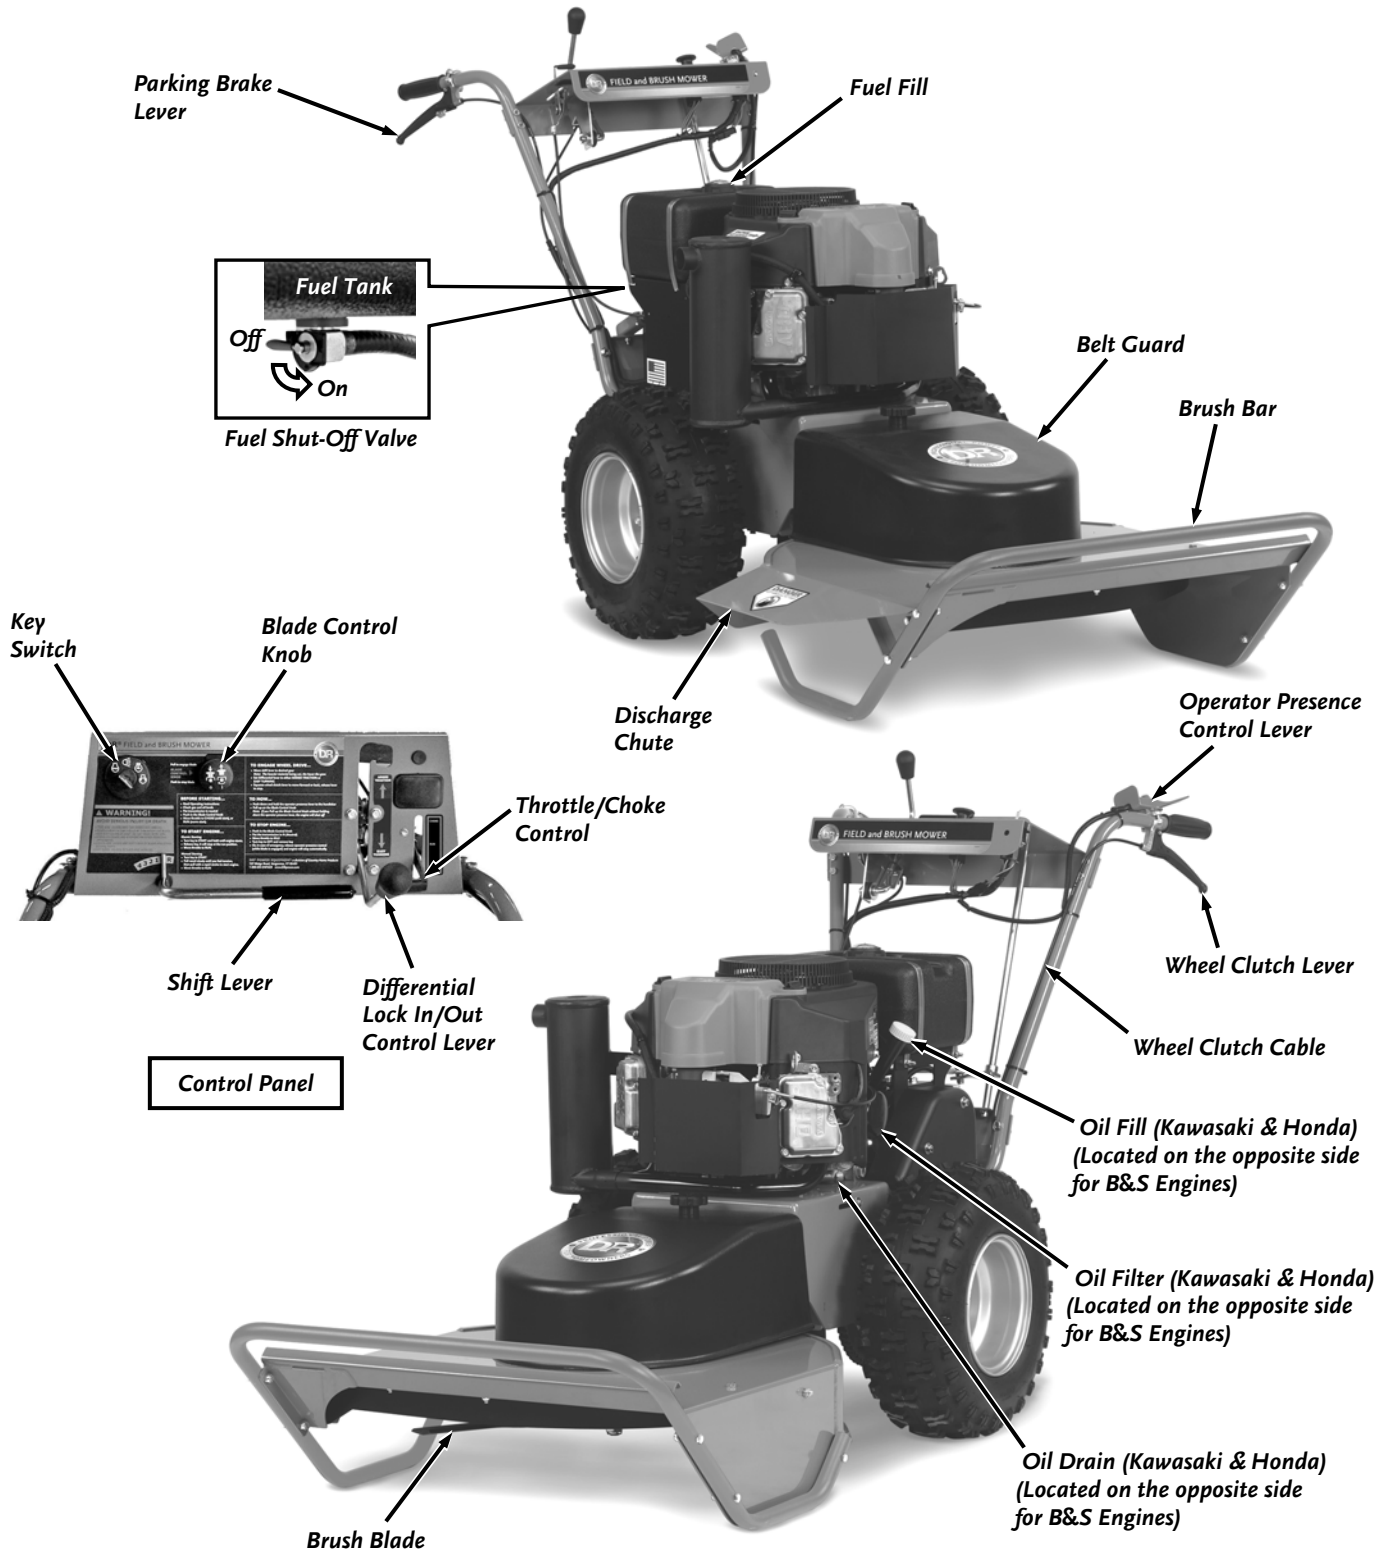

Figure 1
It may be helpful to familiarize yourself with the controls and features of your DR FIELD and BRUSH MOWER as shown in Figure 1 before beginning these procedures. If you have any questions at all, please feel free to contact us at [www.DRpower.com](http://www.DRpower.com).
1. Place the machine on a level surface and initially add 1/2 of the SAE 30 high detergent oil recommended by the Engine manufacturer into the Oil Fill (**Figure 1** on page 7) and wait one minute for the oil to settle.
4. Open the Fuel Shut-Off Valve, which is located on the bottom of the Fuel Tank and accessed from the rear (**Figure 1 on page 7**), if your model is equipped with one.
This chapter covers the procedures for starting and stopping your new DR FIELD and BRUSH MOWER and discusses basic operation features. You may find it helpful to review the DR FIELD and BRUSH MOWER Controls and Features in **Figure 1** on page 7 before reading this chapter.